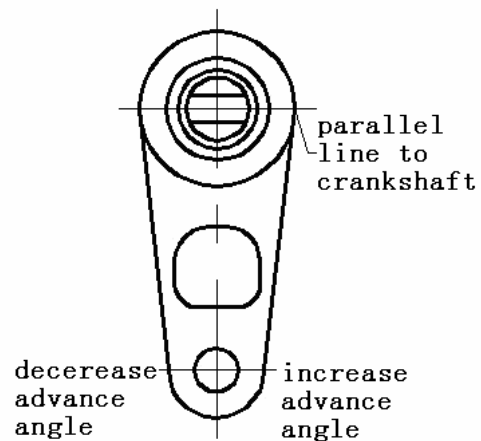

Fig. 4-6 Adjustment of ignition advance angle
- If ignition timing is not within $6\pm 2^{\circ}\text{C}$ loosen the locknuts for distributor housing and adjust it by swinging the housing .swinging anticlockwise increases ignition advance angle, while swinging clockwise reduces it(fig.4-6)